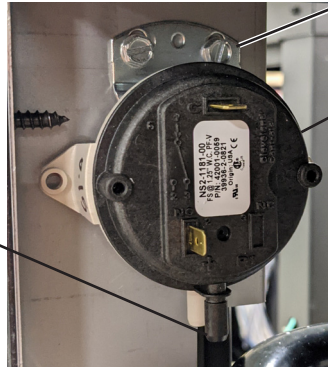

Figure 9.
11. Remove the Air Flow Switch with the Red line on the label. See Figure 8. Remove the bracket from the Air Flow Switch, attach it to the new Air Flow Switch provided in the kit. Attach the bracket to the heater and secure PVC tubing to Air Flow Switch with the hose clamps included in the kit. See Figure 9.